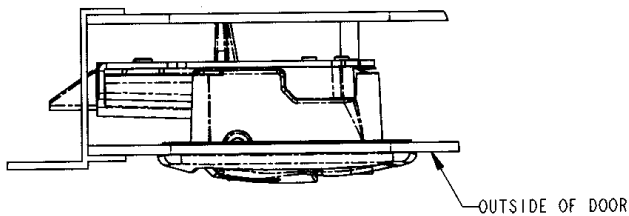

Fig. 8
3. Finish inserting the outside paddle assembly into the cutout as shown (Fig. 8).